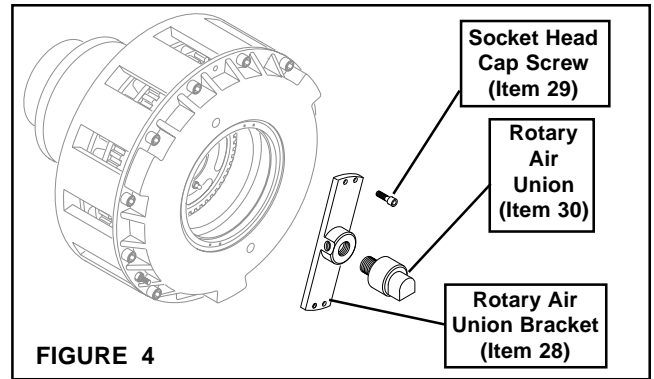

FIGURE 4
1. If the Rotary Air Union (Item 30) and Rotary Air Union Bracket (Item 28) are not assembled, apply pipe sealant to the threads of the Rotary Air Union and screw the Rotary Air Union into the Rotary Air Union Bracket (See Figure 4).
2. Apply a drop of Loctite® 242 to the threads of the four Socket Head Cap Screws (Item 29) provided with the Rotary Air Union (Item 30) and Rotary Air Union Bracket (Item 28); then, secure the Rotary Air Union and Rotary Air Union Bracket to the clutch (See Figure 4).
3. Tighten the four Socket Head Cap Screws (Item 29) to 5.5 Ft. Lbs. [7.45 N•m] torque (See Figure 4).